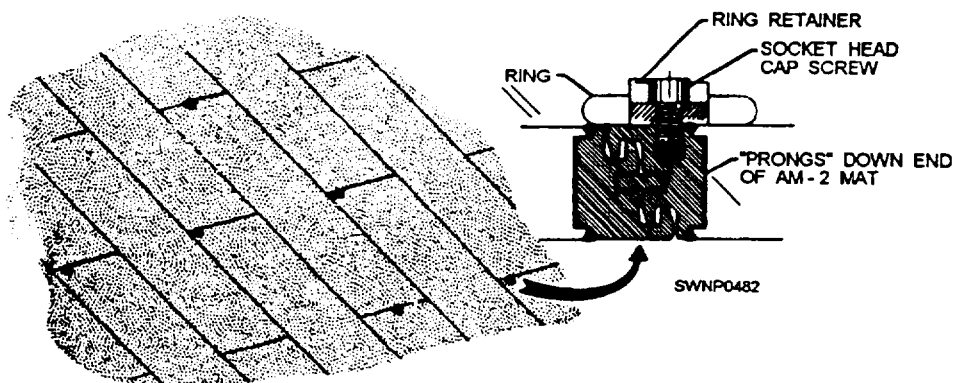

Figure 11-30.—Installing tie-downs in AM-2 matting.
**PARKING AND STORAGE AREAS.—** The parking and storage areas should be installed next. Mats and locking bars are installed in the same manner as the runway and taxi ways, except that the staggered joint pattern is not mandatory. This means that the area can be built up in any random pattern and that all leftover half-length or full-length mats can be used. The 90-degree connectors should be installed between these parking and storage areas and taxiways according to the procedure outlined earlier. Install tie-downs on the matting in these areas, as shown in figure 11-30.